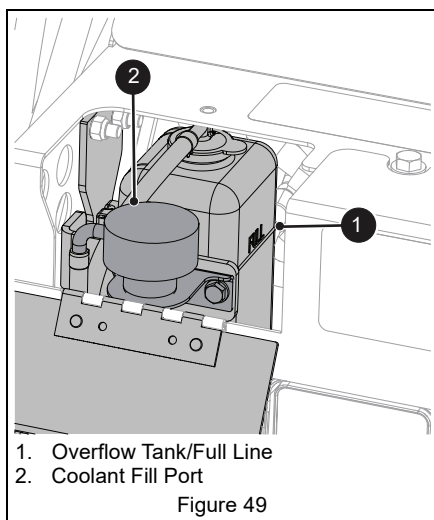

Figure 49
4. Check to see if coolant is visible in overflow tank. If not, add coolant but do not fill beyond line on overflow tank. See Figure 49.